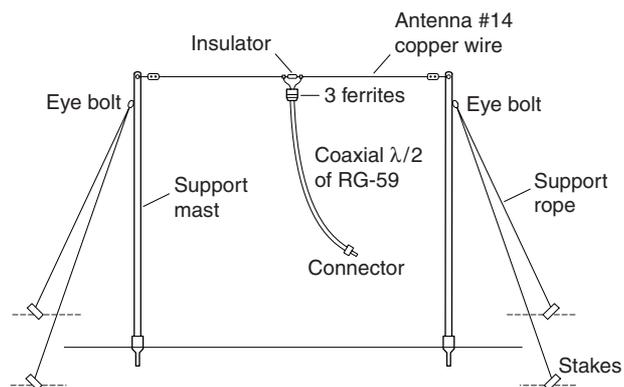
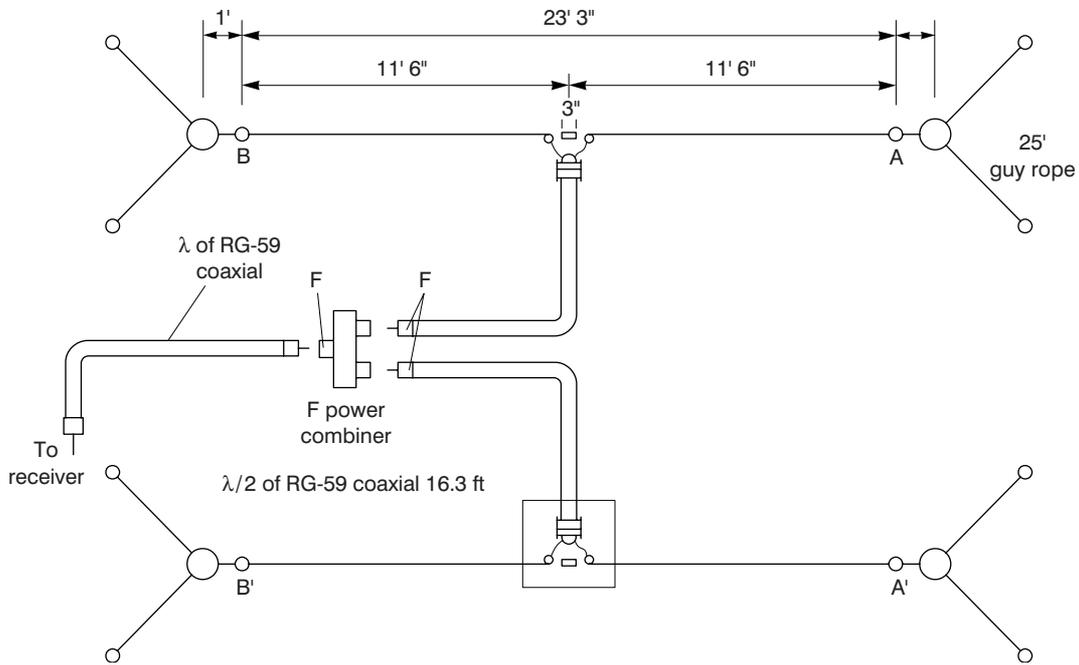

Figure 22-6 Basic dipole antenna diagram. Courtesy Wes Greenman, Charles Higgins
Figure 22-7 Antenna combiner diagram. Courtesy Wes Greenman, Charles Higgins
The antenna intercepts weak electromagnetic waves that have traveled some 500 million miles from Jupiter to the Earth or 93 million miles from the Sun. When these electromagnetic waves strike the wire antenna, a tiny radio frequency (RF) voltage is developed at the antenna terminals. A basic dipole antenna is shown in Figure 22-6. The recommended antenna for the Jupiter Radio Telescope is the dual dipole shown in Figure 22-7. Signals from each single dipole antenna are brought together with a power combiner via two pieces of coaxial cable. The output of the power combiner is delivered to the receiver by another section of coaxial transmission line. The antenna system requires a fair-sized area for setup: minimum requirements are a  $25 \times 35$  ft. flat area that has soil suitable for putting stakes into the ground. As the antenna system is sensitive to noise it is best not to set it up near any high tension power lines or close to buildings. Also for safety reasons, please keep the antenna away from power lines during construction and operation. The best locations are in rural settings where the interference is minor. Since many of the observations occur at night it is wise to practice setting up the antenna during the day to make sure the site is safe and easily accessible.